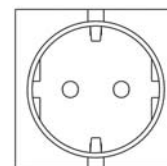

Figure 1: Front side
- The chassis ground terminal (see Figure 1, reference 7) must be connected to the central grounding point of the vehicle/ ship
- The neutral conductor (N) of the AC output of the Inverter must be connected to the safety ground (PE/GND) and a ground fault circuit-interrupter (GFCI) must be integrated in the wiring of the AC output
See Figure 1, ref. 6. Under normal circumstances there is no need to change the default settings of the DIP switches: the inverter is immediately ready for use.
- Before installing the Inverter make sure the main switch (Figure 1, ref. 1) is set to the OFF position.
3. AC voltage: the load can be plugged into the AC-output (Figure 1, ref. 2) directly.
Move the main switch (Figure 1, ref. 1) to "ON". The Inverter will start a self-test indicated by two beeps from the buzzer and flashing LED indicators. This may last for approximate two seconds. Finally the buzzer will produce another beep and the Inverter will switch on, indicated by two green LED indicators.. Now the Inverter is ready to supply load connected to the AC-output.
Move the main switch (Figure 1, ref. 1) to the "OFF" position. Note that switching off the Inverter does not break the connection to the batteries!
The Inverter can be operated on a remote location by means of an optional remote switch. Move the main switch (Figure 1, ref. 1) to the "REMOTE" position. When the remote contact is closed, the Inverter is switched on.
In case of a ground fault, the Ground-Fault Circuit Interrupter (GFCI) trips and cuts off the AC output. To switch on the AC output again, push the reset button (Figure 1, ref. R)
See Figure 1. The operation of the inverter is made visible by means of LED indicators (3), (4) and (5).
1. Move the main switch (Figure 1, ref. 1) to the OFF position.